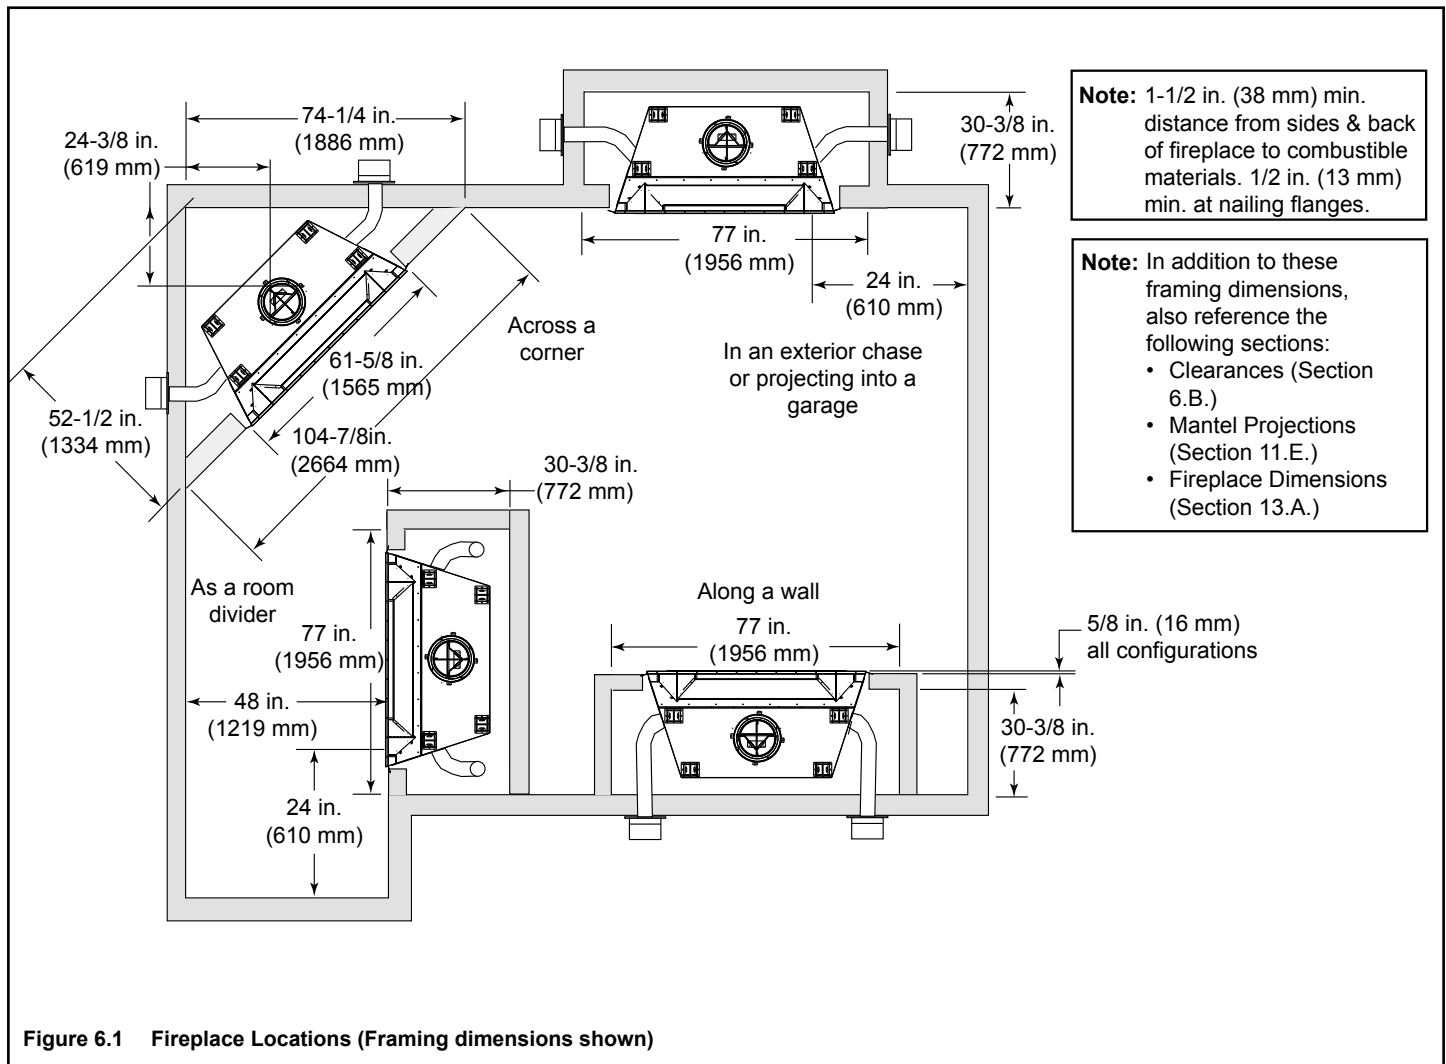

Figure 6.1 Fireplace Locations (Framing dimensions shown)
- Observe all required air space clearances to combustible materials as shown in Figure 6.1 & 6.2.